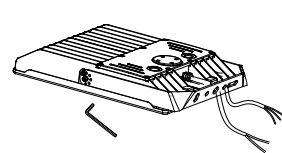

Figure 9
Step 1: Take out the bracket; let the input wire go through the cover or the back cover of the light, then fix the cover and tighten the screws, fix the bracket on the fixture. (Figure 9)